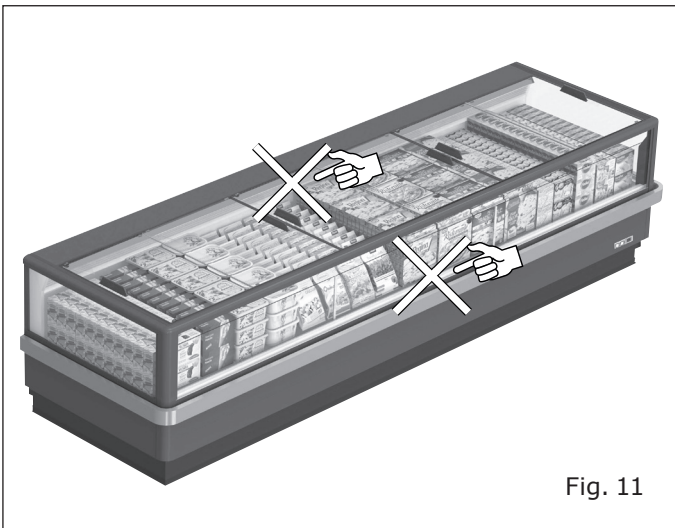

Fig. 11
- The goods do not obstruct the correct flow of refrigerated air ("Fig. 11").